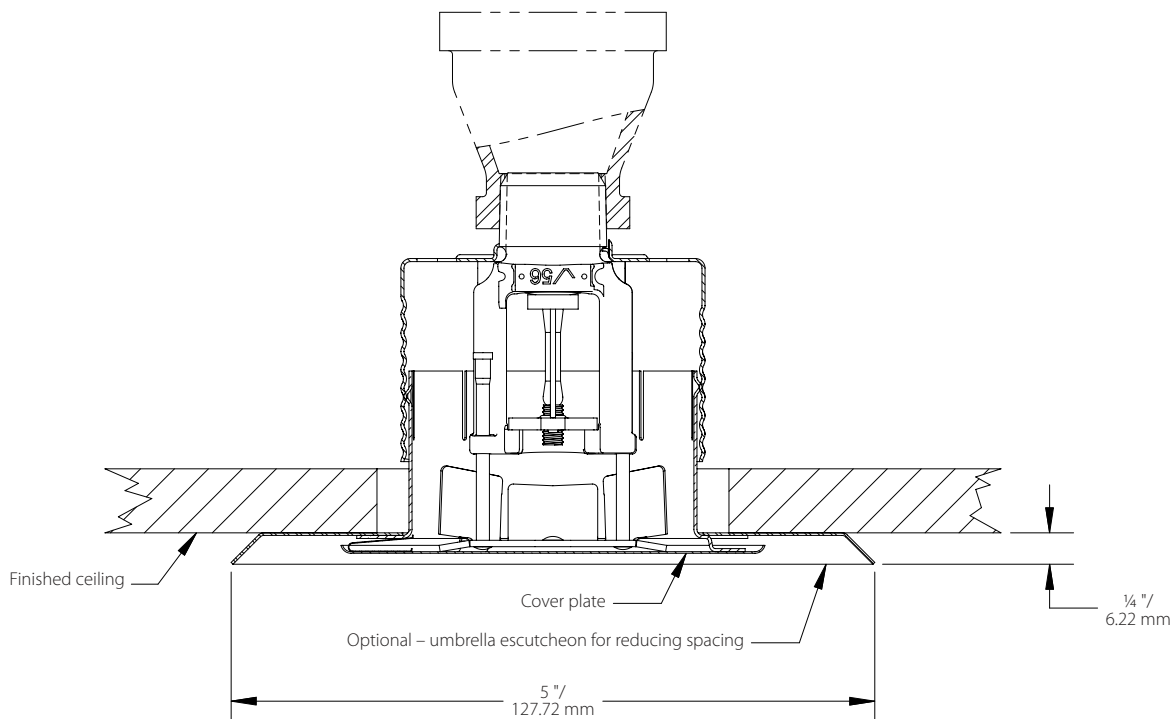

Figure 2c: V5648
- To install, place umbrella escutcheon over the finished cover plate assembly, oriented with the flat surface of the umbrella escutcheon flush with the finished ceiling. See Figure 2c.
⁷ Concealed Sprinkler can be reduced to 5.0 ft (1.5 m) when utilizing optional Cold Solder Umbrella Escutcheon in Figure 2c on page 4.